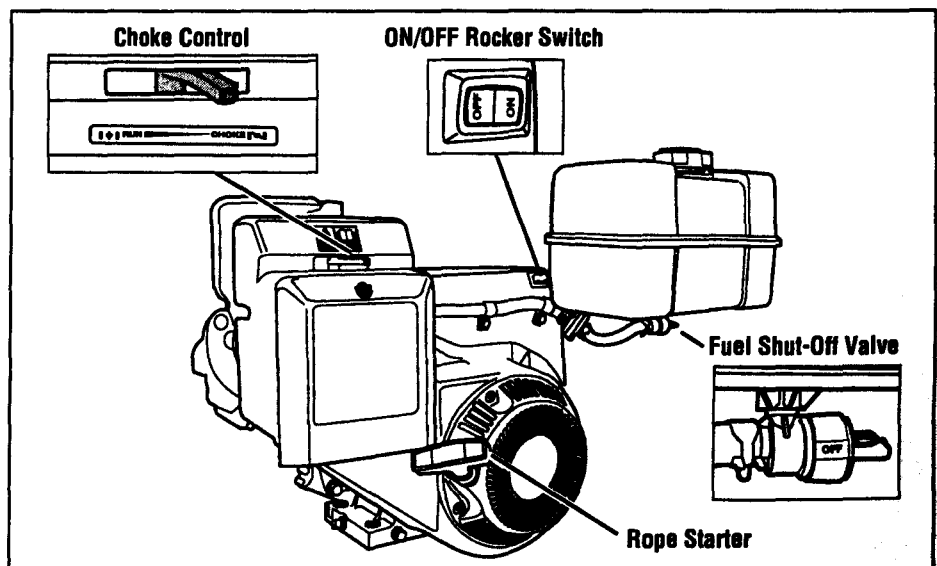

Figure 3-8: Engine controls.
Before starting the engine, push the ON/OFF rocker switch (Figure 3-8) to the
Before starting the engine, turn the fuel shut-off valve (Figure 3-8) 1/4 turn from the OFF position to the OPEN position. After stopping engine, return valve to OFF position.
Before starting the engine, move the engine choke control (Figure 3-8) to the CHOKE position. A warm engine requires less choking than a cold engine.
The engine is started by pulling out the recoil starter handle (Figure 3-8). Detailed instructions for operating the recoil starter are given in Section 4.
2. Turn fuel shut-off valve (if equipped) 1/4 turn to OPEN position. See Figure 3-8.
3. Move the engine choke control (Figure 3-8) to the CHOKE position. A warm engine requires less choking than a cold engine.
4. Push the rocker ON/OFF switch (Figure 3-8) to the ON position.
1. Push rocker ON/OFF switch (Figure 3-8) to OFF position.